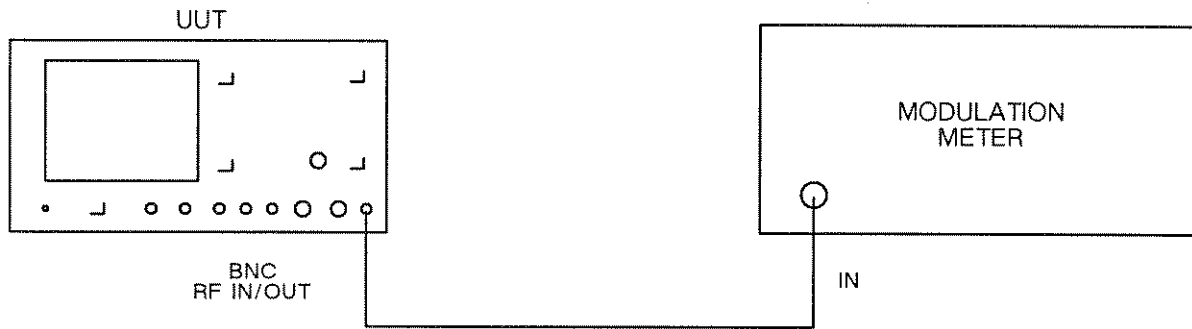

Fig. 5-21 Test equipment connections for RF generator AM and FM internal accuracy
- (1) Connect the equipment as shown in Fig. 5-21.